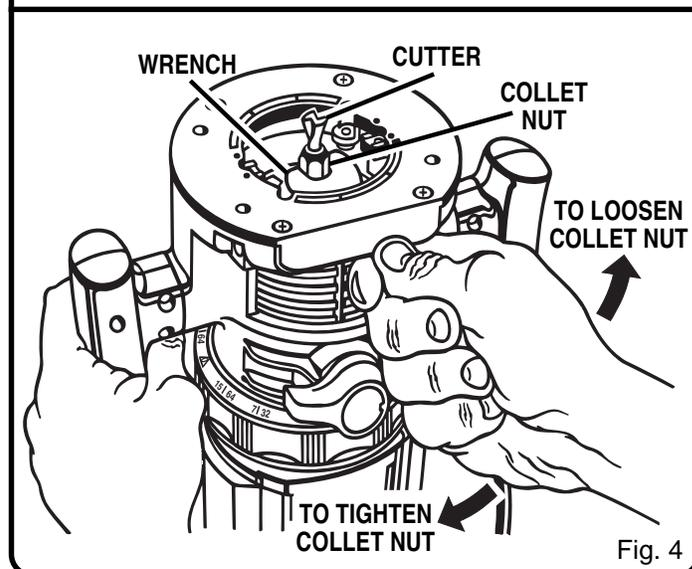

Fig. 4
■ Place your router upside down on table, then turn collet nut with wrench until lock mechanism interlocks. See Figure 4.
■ Remove cutters by turning collet nut counterclockwise enough to allow cutter to slip easily from collet. See Figure 4.
■ Tighten the collet nut securely by turning clockwise with the wrench provided. See *Figure 4*.